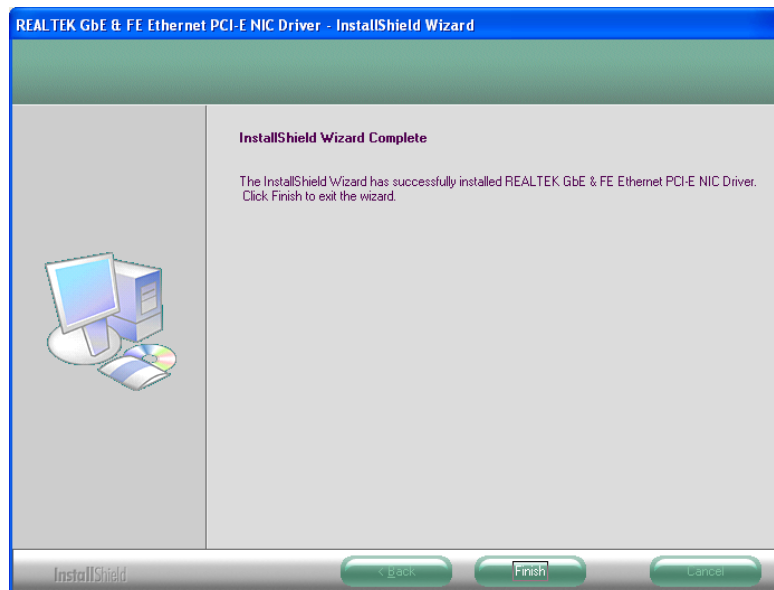

Figure 6-17: LAN Driver Installation Complete
Step 11: When the driver installation is complete, the screen in **Figure 6-17** appears.